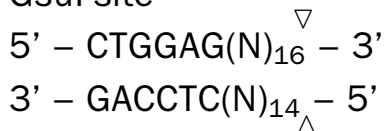

Fig. 2. Sfil and Gsul recognition sites.
**Commentary:** The adapters contain asymmetric sites for SfiI restriction (SfiA and SfiB; Fig. 2). Being incorporated at the 5' and 3' ends of the cDNA the sites allow directional cloning of the cDNA library. After digestion with SfiI restriction endonuclease and size fractionation, synthesized cDNA can be ligated into an appropriate SfiI-digested vector. Since SfiI digestion cuts off the excessive parts of flanking adapters, it also makes the resulting cDNA perfectly suitable for SOLiD or Illumina sequencing.
- CDS-Gsu adapter contains a Gsul recognition site (Fig. 2) just upstream of the unmodified poly(T) sequence. Gsul is a type II restriction enzyme that cuts cDNA within the poly(A) tail, reducing its length so that all subsequent sequences start with a shorter run of thymidines.